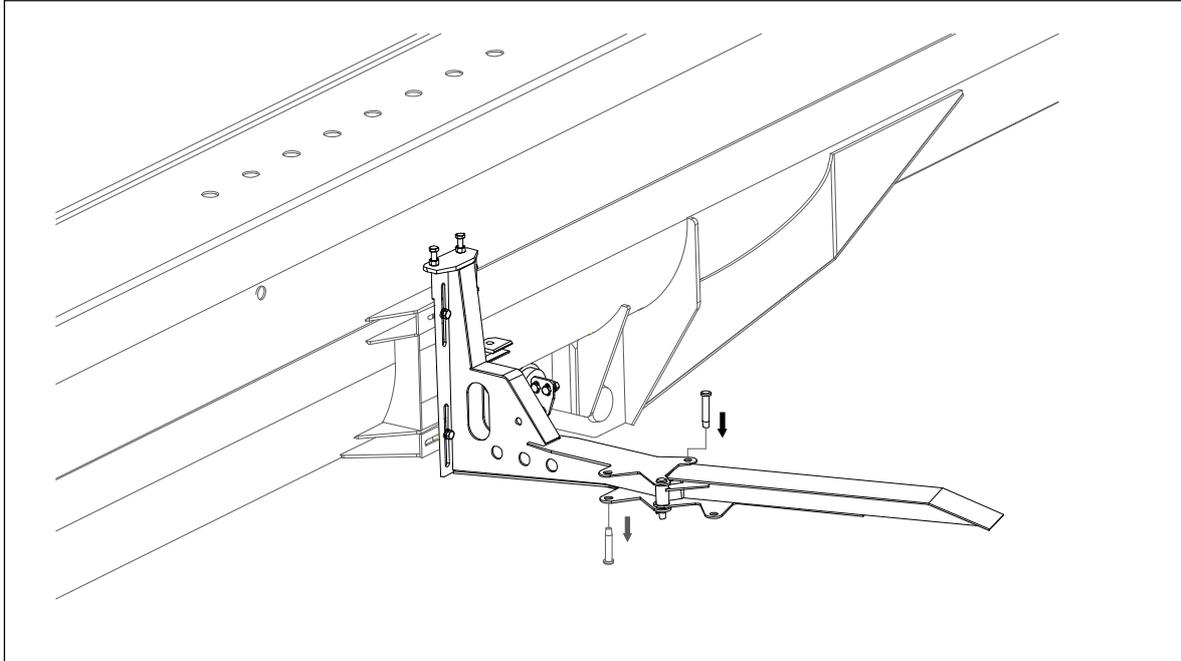

Figure 5-3 Extend the intermediate bracket
- b) Remove the pin I. Extend the intermediate bracket and install the removed pin I. See Figure 5-3.